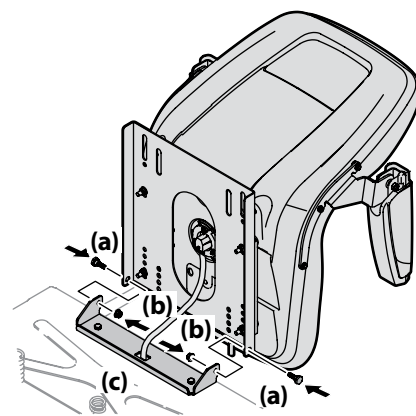

Figure 2-3
3. Rotate the seat into position and secure the seat into place with the previously removed shoulder screws and flange lock nuts. Be careful not to crimp or damage the wire harness while installing the seat. See Figure 2-3.